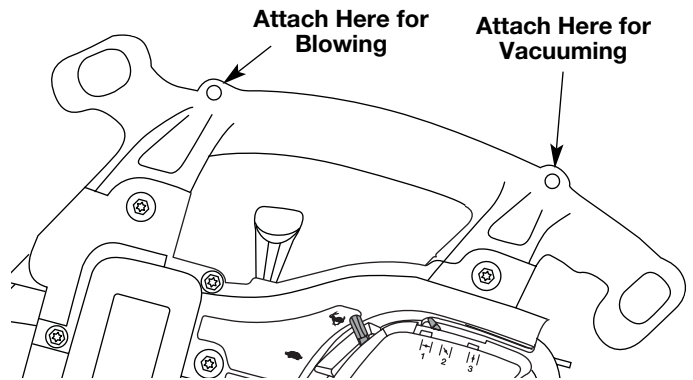

Fig. 7
- Snap the clip on to the support fittings on the front or back of the handle. Clip to the front portion of the handle when using the unit as a blower, and clip to the back portion of the handle when using the unit as a vacuum (Fig. 7).